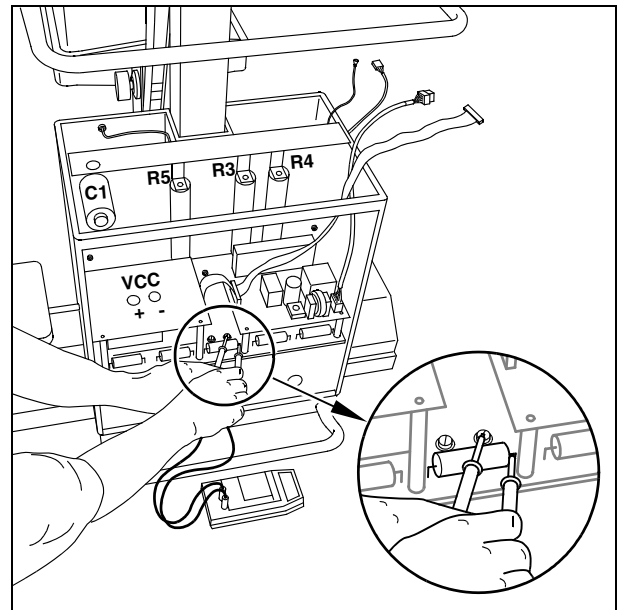

Fig. 11
- Measure the actual voltage present in the capacitor bank with the DVM at test point - VCC and +VCC on the inverter board D960 or (more accessible) on the capacitor board D970 at the + connecting point of the C3 capacitor and on the right-hand side of fuse F3 (see Fig. 11).
- Unscrew the three Allen screws (2/ Fig. 11).
- Pull out the connectors X3 and X9 (3/ Fig. 11) on the charging board D950.
- Remove flat ribbon cable X20 (4/ Fig. 11) from the inverter board D960 and from the charging board D950.
**In this case, discharge the affected capacitor with the discharging resistor R5 (5/ Fig. 11) .**